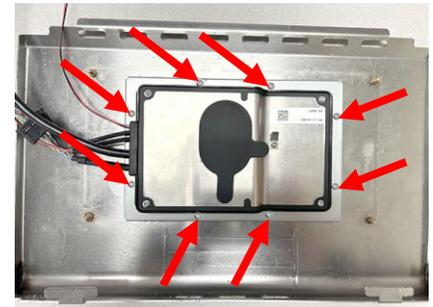

Figure 14
17. Remove the 8 (eight) screws attaching the controller bracket to the controller bezel (see Figure 14). **NOTE: the rear of the controller may differ in appearance.**